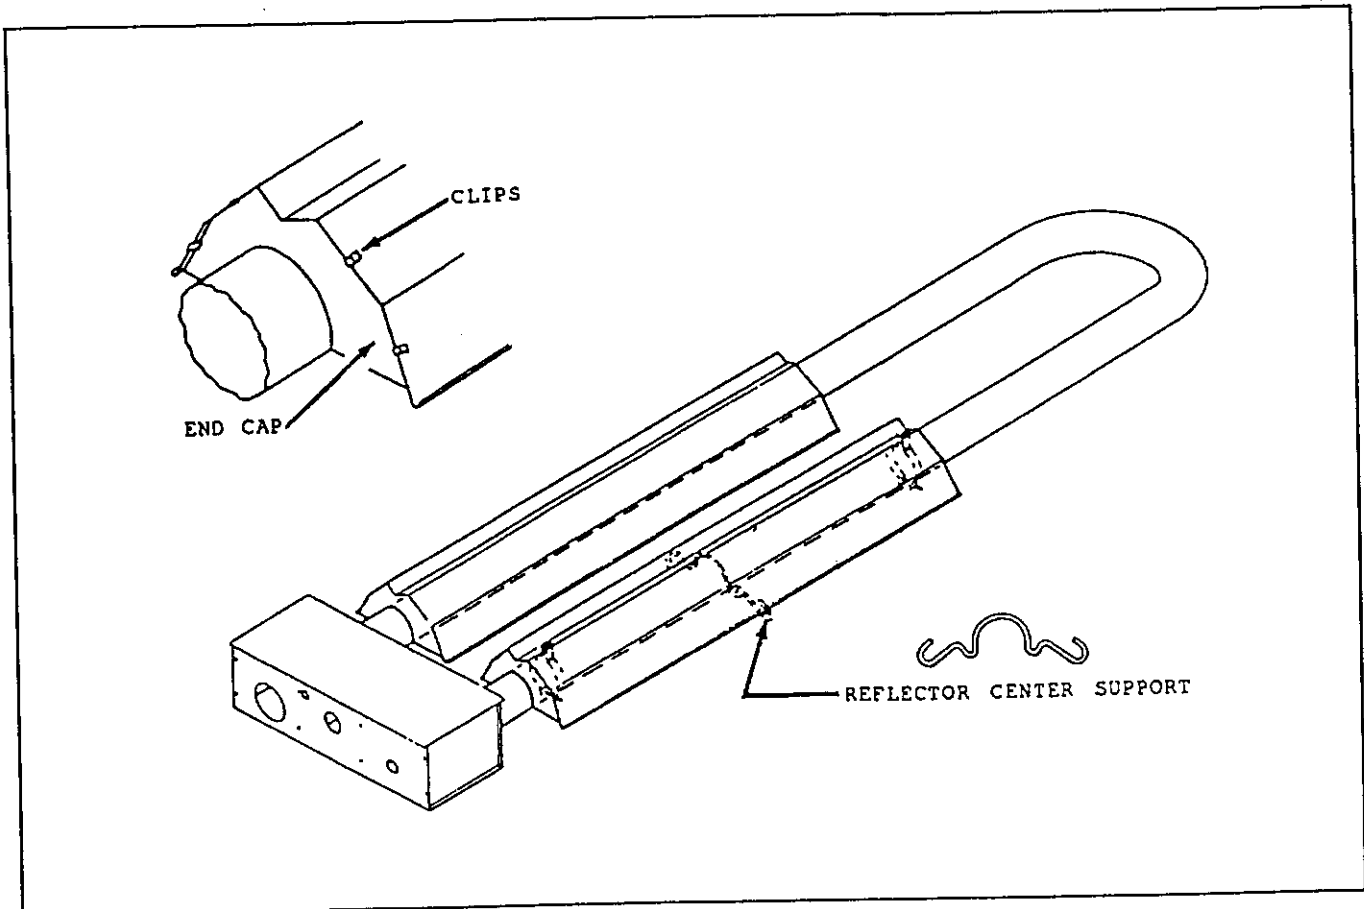

Figure 1-14
2. Mount reflector center support at halfway point on each 10 ft of tube (see Figure 1-14).
5. Install reflector end-caps on each reflector using clips (Figure 1-14).